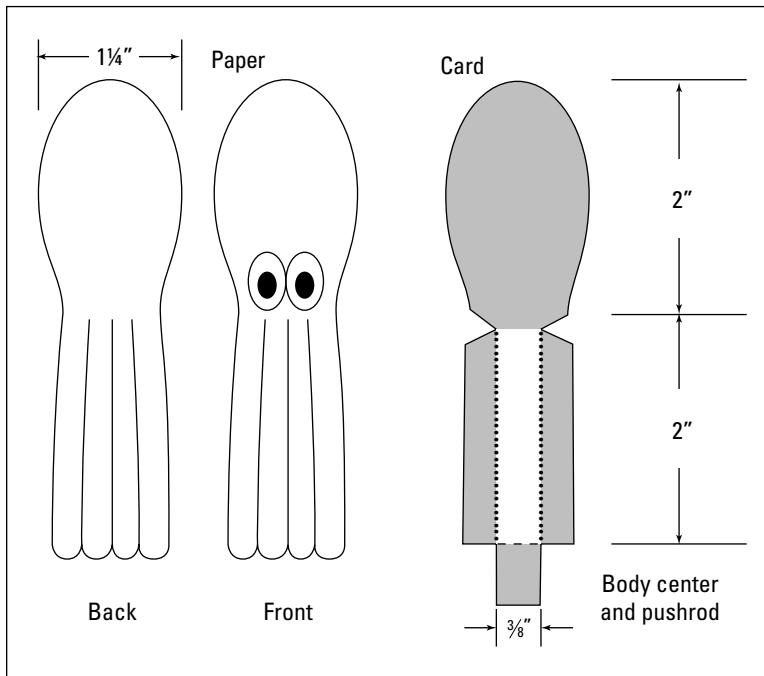

Figure 10-7:
10. Mark out the templates from Figure 10-7 onto paper and card.